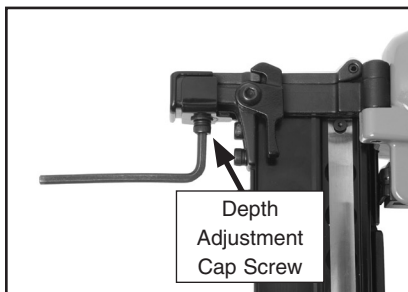

Figure 7. Depth adjustment cap screw.
2. Use a 4mm hex wrench to loosen the depth adjustment cap screw on the contact arm as shown in **Figure 7**.